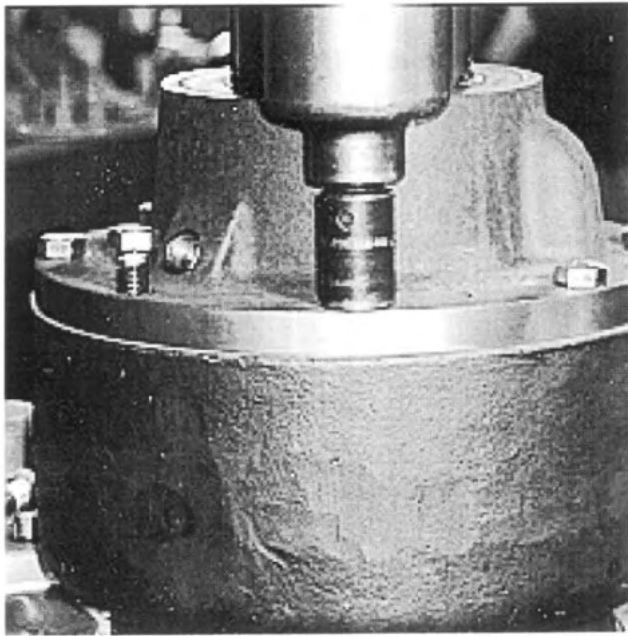

Fig. 15
16. Remove the eight (8) bolts attaching the front output shaft carrier to the front declutch housing, remove the front output shaft assembly and gasket from the transfer case. *See Fig. 15.*